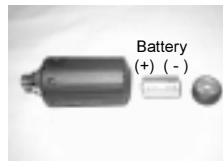

Fig. 153 - TMT BATTERY ORIENTATION
- Place a new 3 volt, CR2, Lithium Battery (Duracell model DL-CR2 or equivalent) positive (+) side down into the Battery Compartment with the negative end facing up/out (Fig. 153).